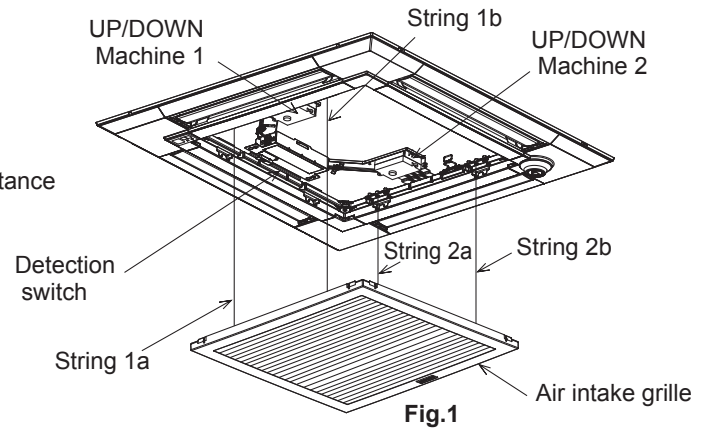

Fig.1
- This function is available only by the grouping control system (INDOOR UNIT : OUTDOOR UNIT=1:1) of 2 refrigerant groups. (Refer to Fig. 1)